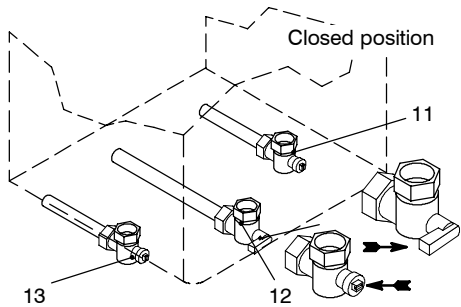

Fig. 9.3
- 1 Check that the gas cock (12 in Fig. 9.3) fitted under the boiler is turned off and the appliance is switched off at the mains isolating spur.
15 Open the gas cock (12 in Fig. 9.3)